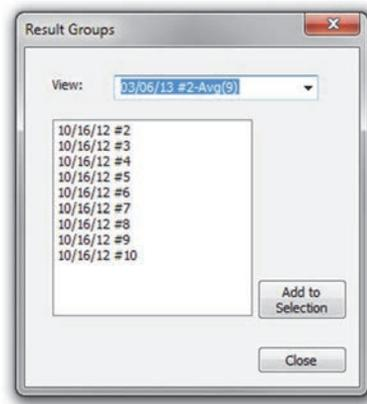

Figure 8-5 The Result Groups dialog box – Calc Average applied
5. Select **Calc Average** to calculate the average (see Figure 8-5 on page 108).